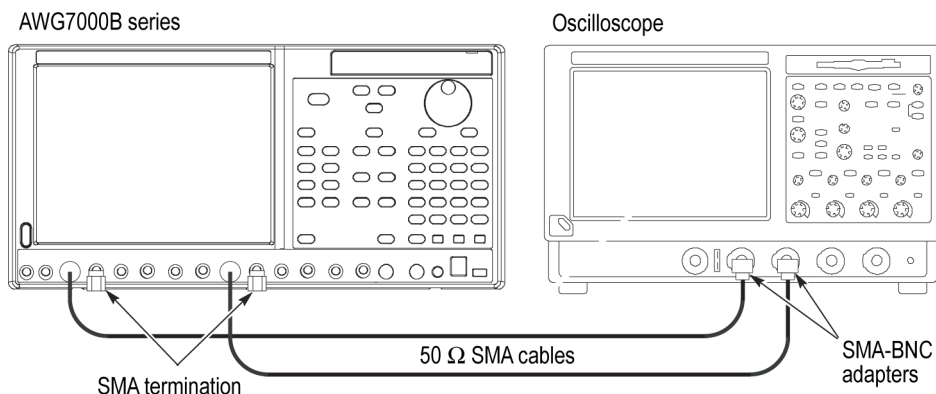

Figure 9: Magic timing margin check hookup
- Attach the SMA termination to the Channel 2 Analog (-) Output on the front panel of the arbitrary waveform generator. (See Figure 9.)